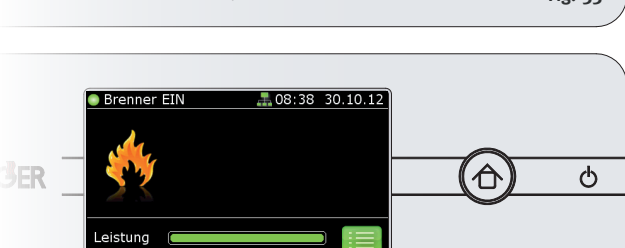

Fig. 34
3. A keypad for entering the WLAN code appears, enter the relevant code and confirm the entry with OK (Fig. 34).